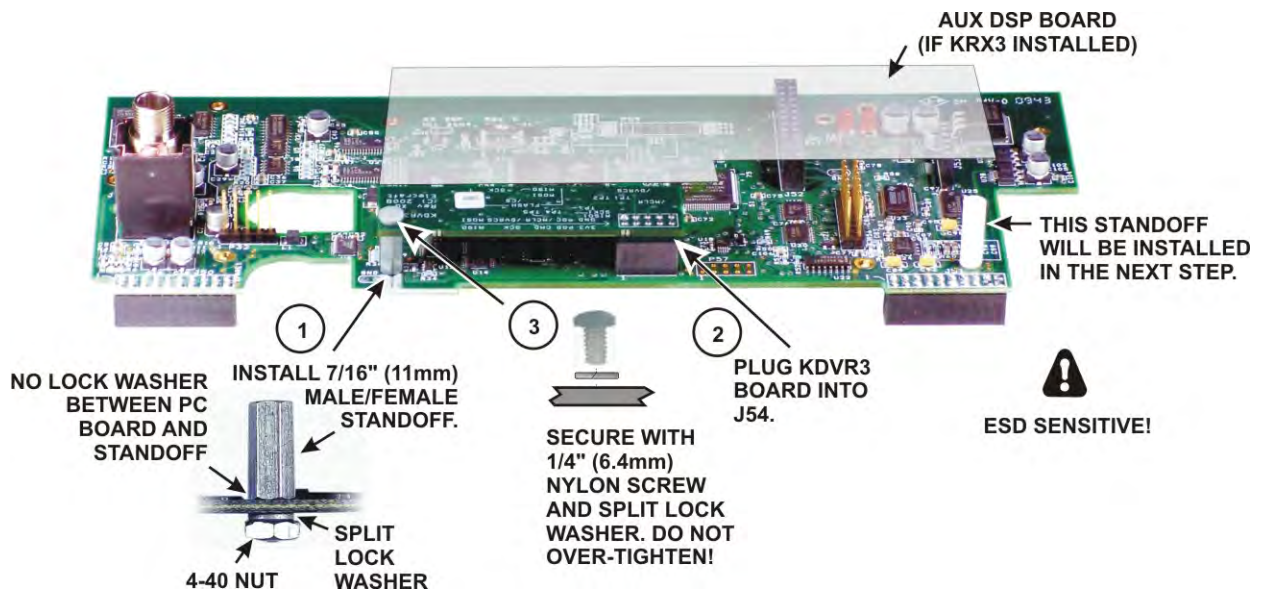

Figure 55. Installing the KDVR3 Board.
□ If you have the KDVR3, install it on the main DSP board as shown in Figure 55. The required hardware is included in your KDVR3 kit. If you did not purchase the KDVR3, skip this step and continue with *Mounting the DSP Board Assembly on the Front Panel* on 39.
- Locate the main DSP board and install the nylon standoff near J51 as shown below. Be sure you place it in the correct hole near the edge of the board. The standoff is also shown in Figure 55.